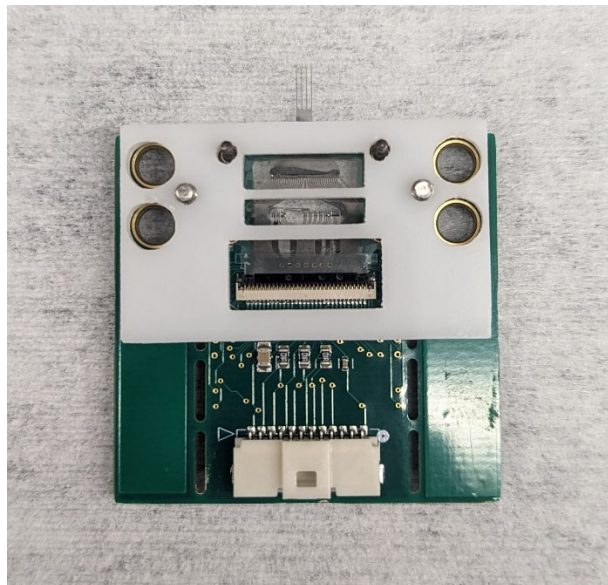

Figure 5: The pMEA should be secured with the device cover.
3. Fit the device cover over the device and secure with #2-56 (Figure 5).